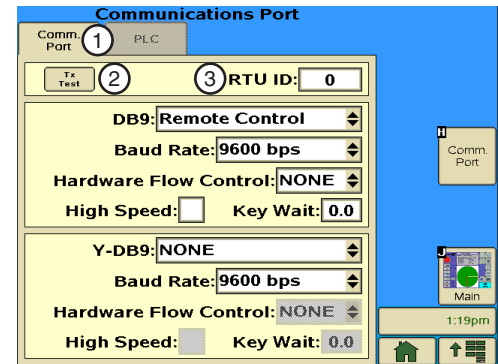

Figure 41-1 1. Comm. Port Tab
Comm. Port is used to set the control panel communications port, protocol, and baud rate for information that is transmitted and received when communicating with another computer. The baud rate must be set to match the other computer or communications equipment connected to the TouchPro control module. Refer to Figure 41-1.
1. Select the **RTU ID** field. Refer to Figure 41-1.